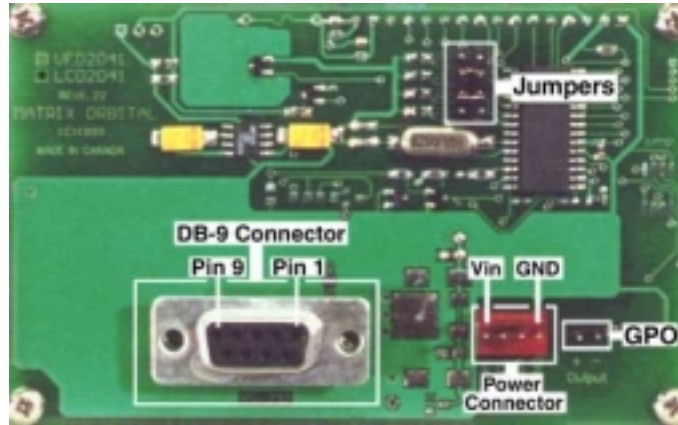

Figure 2-1 Electrical Connections
1. Refer to the diagram above and Figure 2-1 for the following steps.
Power is applied via pins 1 and 4 as shown in Figure 2-1. Power requirement for standard units is +5 VDC \pm 0.25V (units with the wide voltage range option require 8 – 15 VDC). Power may also be supplied via the RS-232 connector as described in section 2.1.4.